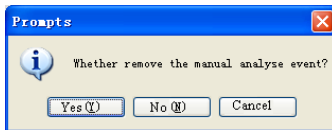

Figure 5.45
- 5) Click "Reanalyse", the dialogue box as Figure 5.45 will appear, click "Yes(Y)" to remove all old data analyzed manually and re-analyse; click "No(N)" to reanalyse but not remove the manual analysis data; click "Cancel" to cancel the reanalyse operation.